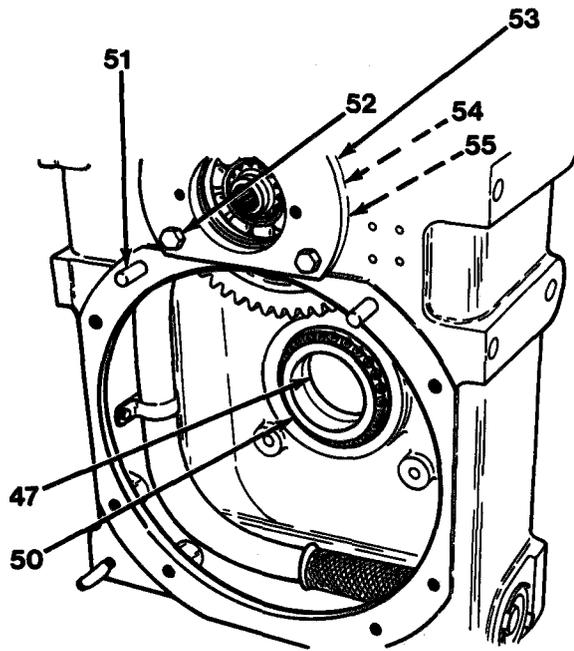

Figure 11-13
28. Remove cone of bearing (47, Figure 11-13) from transmission case.
29. Remove oil seal (50) and cup of bearing (47) from transmission case.
30. Remove two threaded studs (51) from transmission case, if inspection proves necessary.
31. Remove four capscrews (52) from adapter (53).
32. Remove adapter (53) and O-rings (54) and (55).